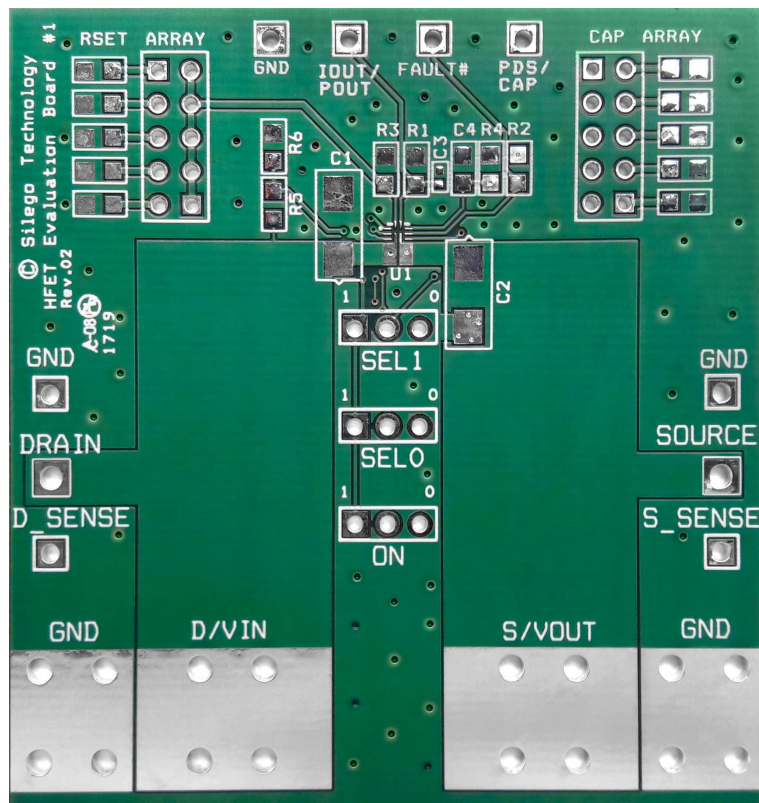

Figure 14. SLG59H1008V Evaluation Board
1. Since the V_{IN} and V_{OUT} pins dissipate most of the heat generated during high-load current operation, it is highly recommended to make power traces as short, direct, and wide as possible. A good practice is to make power traces with absolute minimum widths of 15 mils (0.381 mm) per Ampere. A representative layout, shown in Figure 14, illustrates proper techniques for heat to transfer as efficiently as possible out of the device;
A High Voltage GreenFET Evaluation Board for SLG59H1008V is designed according to the statements above and is illustrated on Figure 14. Please note that evaluation board has D_Sense and S_Sense pads. They cannot carry high currents and dedicated only for $R_{DS(ON)}$ evaluation.